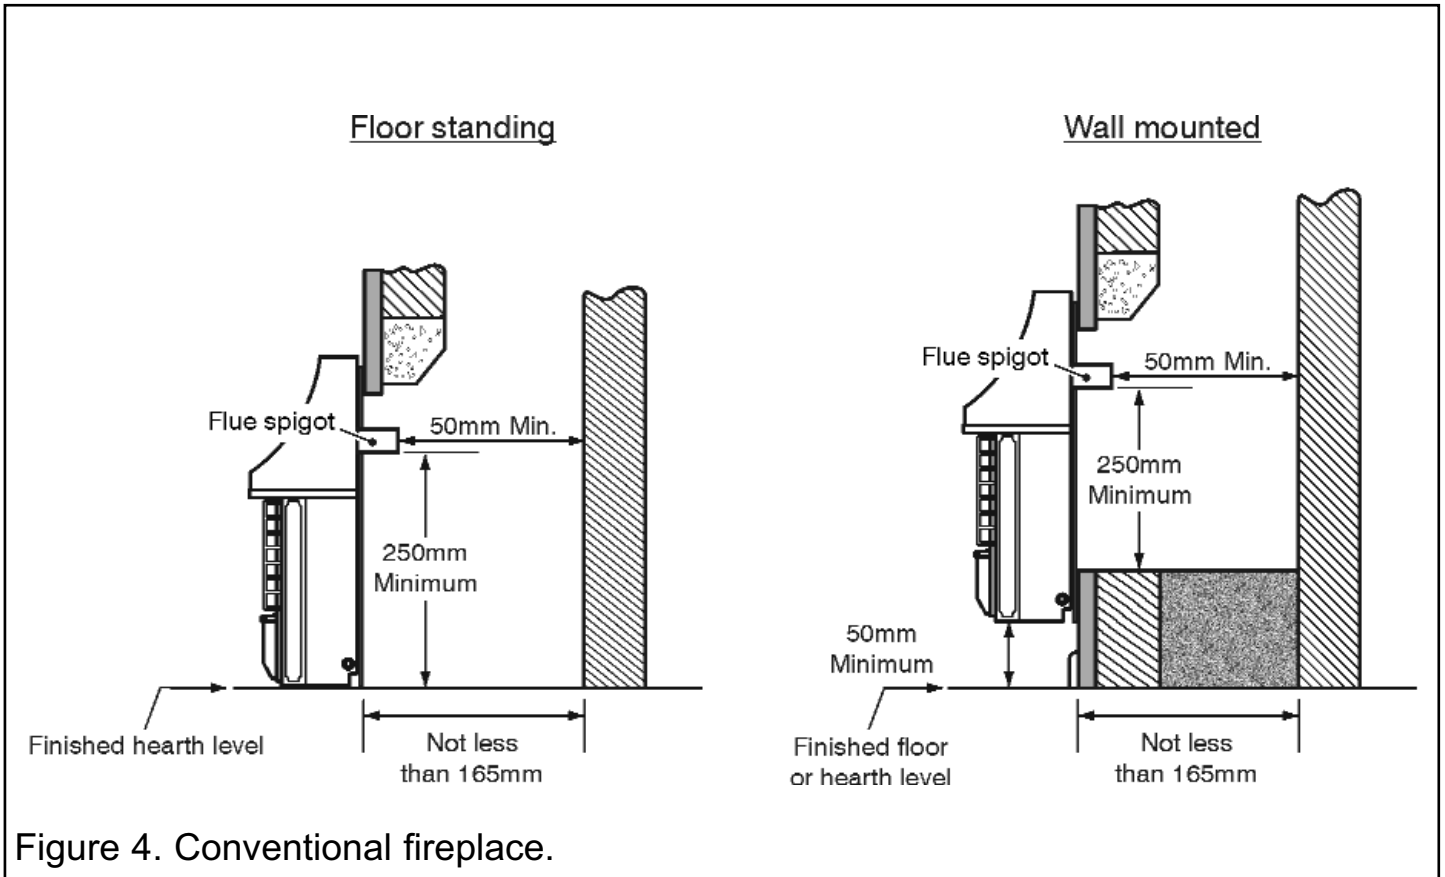

Figure 4. Conventional fireplace.
5.8.1 The flue spigot and any spigot extension must be capable of passing through the closure plate by at least 38mm with a minimum clearance of 50mm from its open end and the nearest vertical surface (See figure 4).
The appliance must be mounted on a non-combustible hearth **except when the appliance is elevated 50mm above the finished floor as in figure 4** (N.B. conglomerate marble hearths are considered as non-combustible). The hearth must be at least 680mm wide x 300mm deep. The hearth material must be at least 12mm thick. The periphery of the hearth (or fender) should be at least 50mm above floor level to discourage the placing of carpets or rugs over it.
A conventional fireplace catchment space must be as shown in figure 4.